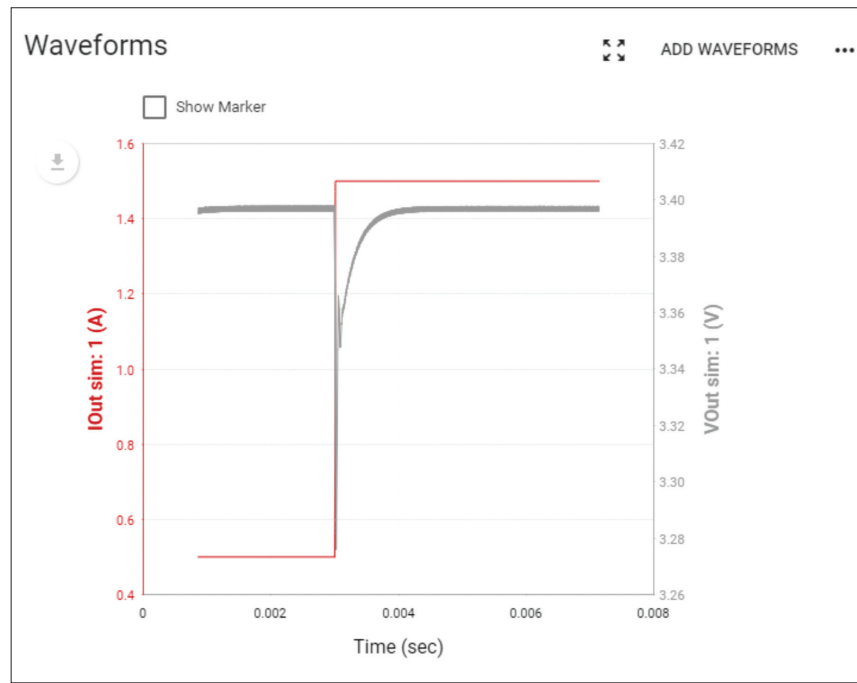

Figure 9.
9. After the end of simulation,  $V_{OUT}$  and  $I_{OUT}$  are plotted on the right side of the screen, as shown in **Figure 9**. (To enlarge this, click and drag the black bar separating the 'Schematic' and the 'WAVEFORM' to the left.) The performance summary pane which is below WAVEFORM shows maximum and minimum values of output voltage,  $V_{OUT}$  as shown in **Figure 10**. Calculate the difference between these two values and record it in **Table1**.